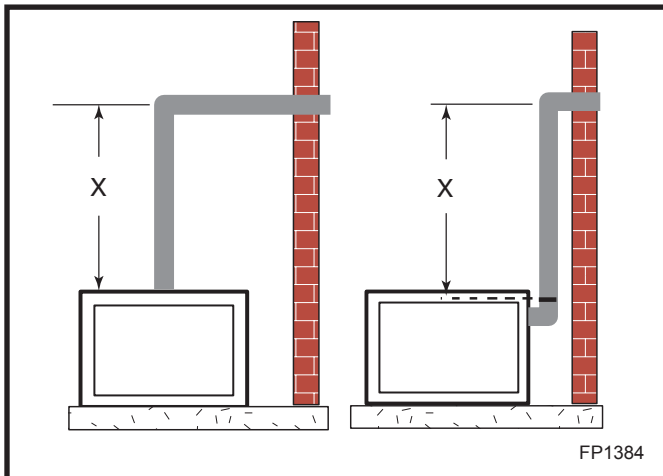

Fig. 25 Vertical height requirements.
Place fireplace into position. (Fig. 25) Measure the vertical height (X) required from the base of the flue collars to the center of the wall opening.